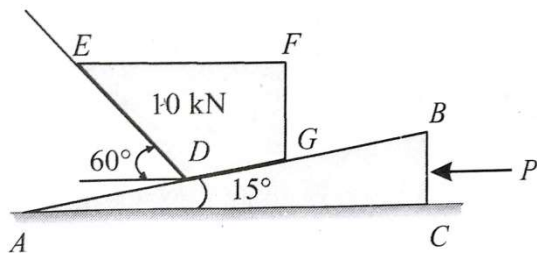

Figure 2.6
7. A block weighing 10 kN is to be raised against a surface which is inclined at 60° with the horizontal by means of 15° wedge as shown in Figure 2.6. Find the horizontal force (P) which will just start the block to move, if the coefficient of friction between all the surfaces of contact be 0.2.